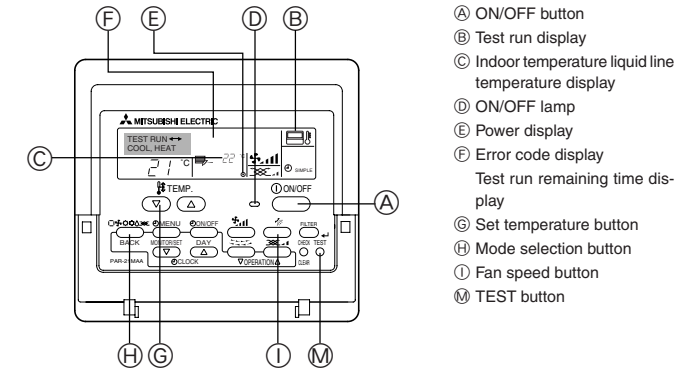

Fig. 8-1
8.2. Test run (Using wired remote controller) (Fig. 8-1)
- ① Turn on the power at least 12 hours before the test run.
- ② Press the [TEST] button twice. ➡ “TEST RUN” liquid crystal display
- ③ Press the [Mode selection] button. ➡ Make sure that wind is blown out.
- ④ Press the [Mode selection] button and switch to the cooling (or heating) mode. ➡ Make sure that cold (or warm) wind is blown out.
- ⑤ Press the [Fan speed] button. ➡ Make sure that the wind speed is switched.
- ⑥ Check operation of the outdoor unit fan.
- ⑦ Release test run by pressing the [ON/OFF] button. ➡ Stop
- ⑧ Register a telephone number.